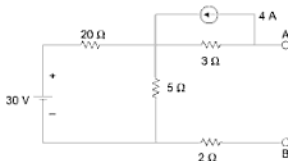

Fig. A1-43
- (c) Find Thevni's equivalent circuit across AB shown in Fig. A1-43.